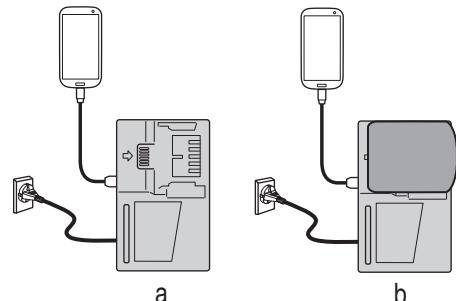

Fig. 19
- Charging a USB device from a electrical outlet. (**Fig. 19-a**)
- Charging a USB device and battery from a electrical outlet. (**Fig. 19-b**)